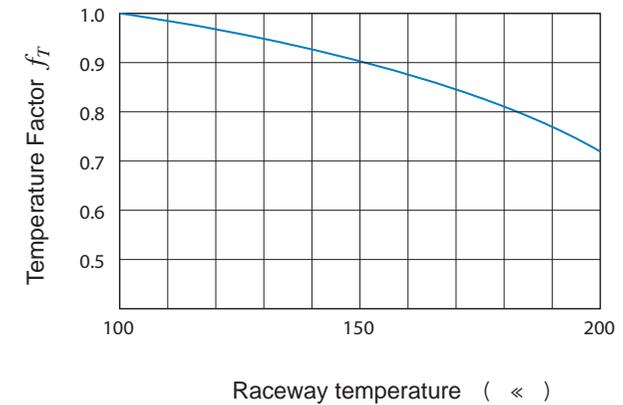

Fig.17 Temperature Factor  $f_T$
- $f_r$  Temperature factor (see Fig.17[B2-19])
When operating temperature higher than 100°C, the service life will be degraded. Therefore, the service life should be multiplied by temperature factor ( $f_T$ ) indicated in Fig.17.